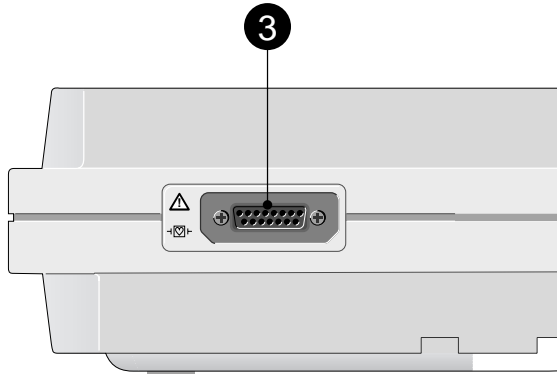

Figure 4-1. ECG signal input
- Connect the patient cable to connector **3** (Figure 4-1).